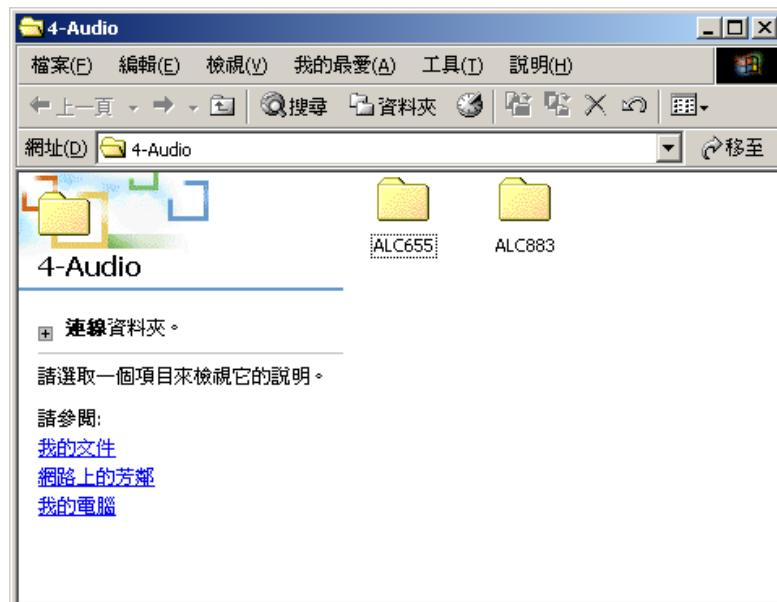

Figure 6-21: Audio Driver Options
Step 3: The screen in **Figure 6-21** appears.
Step 4: Select “ALC655” in Figure 6-21